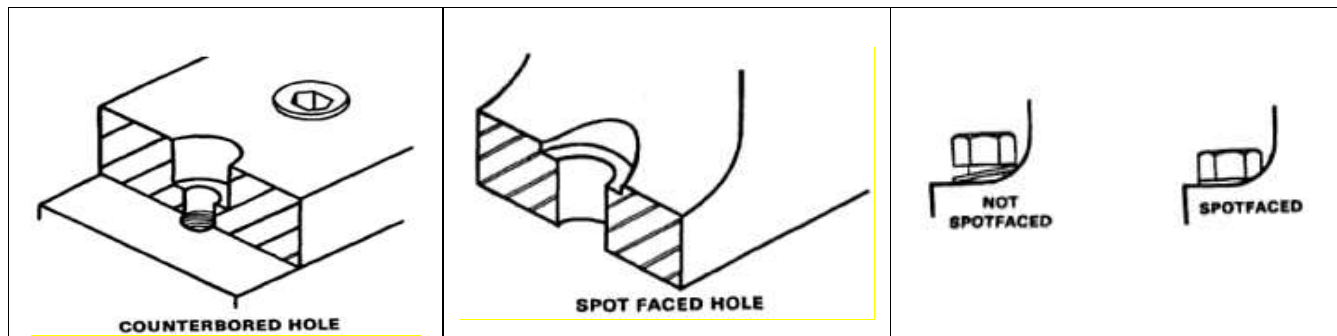

Figure 4-40. Counterboring and spot facing
**Counterboring:** Is the process of using a counterbore to enlarge the upper end of a hole to a predetermined depth and machine a square shoulder at that depth (Figure 4-40). When counterboring, mount the tool into the drill chuck and